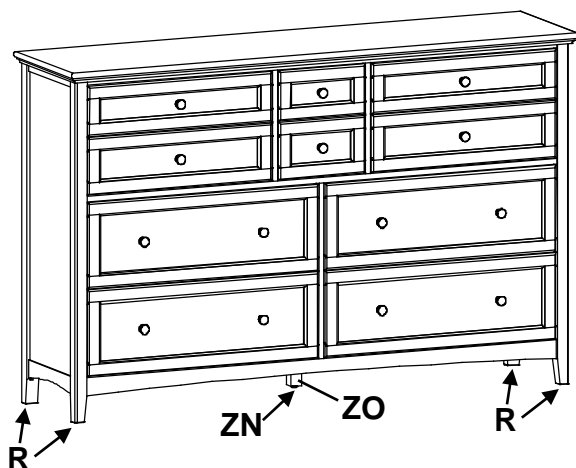

Fig. 4
4. Place the unit at its final destination. Rotate the Small Adjustable Glides (R) found at the corners of the unit and the Adjustable Glide with Hex Nut (ZN) at the bottom of the Assembled Foot (ZO) until the unit is level. See Figure 4.